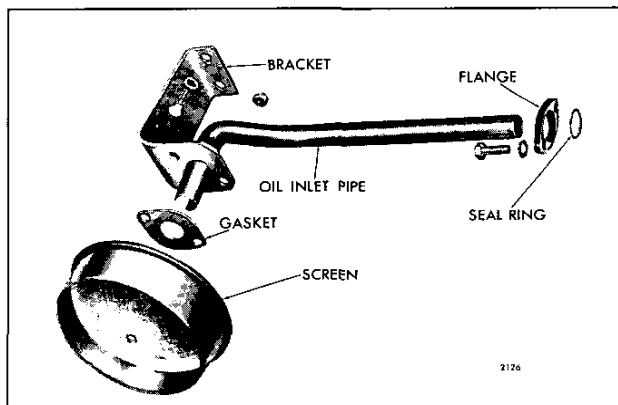

Fig. 9 - Oil Pump Inlet Pipe and Screen Details and Relative Location of Parts (In-Line Engine)
4. Attach the oil inlet screen to the oil inlet pipe support with two locknuts (6V engine) or two bolts and lock washers (Fig. 9).